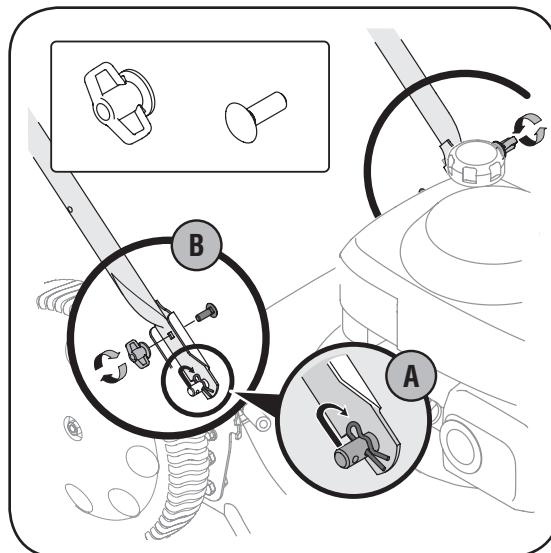

Figure 3
- a. Remove hairpin clip from this hole. Using a pair of pliers, insert hairpin clip into the other hole on the weld pin. Repeat on other side. See Figure 3.
- b. Place one carriage bolt (found in the hardware pack included with your unit) in the upper hole of the right handle mounting bracket from the inside outward. See Figure 3. Secure with one wing nut. Repeat process on the left side.